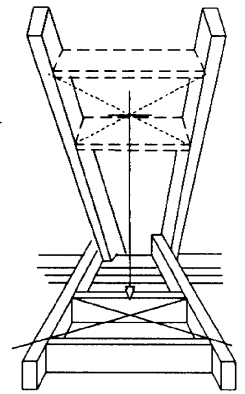

Figure 6
3. Hold a plumb bob from the underside of the roof to determine where the opening in the roof should be. Cut and frame the roof opening to maintain proper 2" (50 mm) clearances (figure 6).